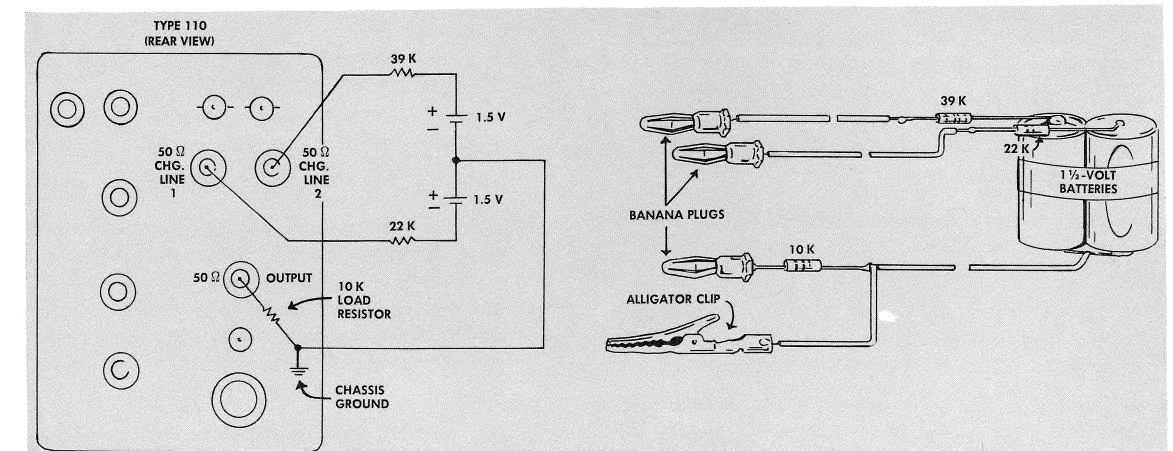

Fig. 6-2. Mercury switch tester circuit connected to the Type 110 (left); pictorial diagram of tester assembly (right).
- (5) Mercury switch tester made from the following parts: two $1\frac{1}{2}$ -volt batteries; one 22 k, $\frac{1}{2}$ w resistor; one 39 k, $\frac{1}{2}$ w resistor; one 10 k, $\frac{1}{2}$ w resistor; three banana plugs; one alligator clip; one 3" wire lead; three 12" wire leads. Connect components as shown in Fig. 6-2.
Connect the test battery leads to the rear terminals of the Type 110 as shown in Fig. 6-2. Do not insert the banana plugs in all the way as this may damage the GR connectors. The 22-k and 39-k resistors are used in this circuit to obtain two different output voltages from the batteries. These voltages are applied through the reed contacts to the probe. The voltage difference allows you to tell if the mercury switch contacts are "bridging" or not. The 10-k resistor is used as a load resistor.